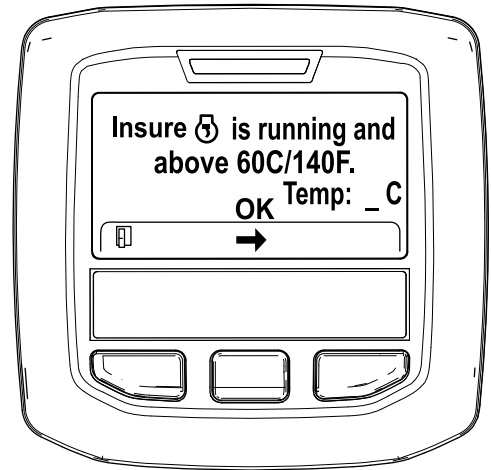

Figure 7
5. If the coolant temperature is below 60°C (140°F) the “Insure  is running and above 60C/140F” message displays. (Figure 7).